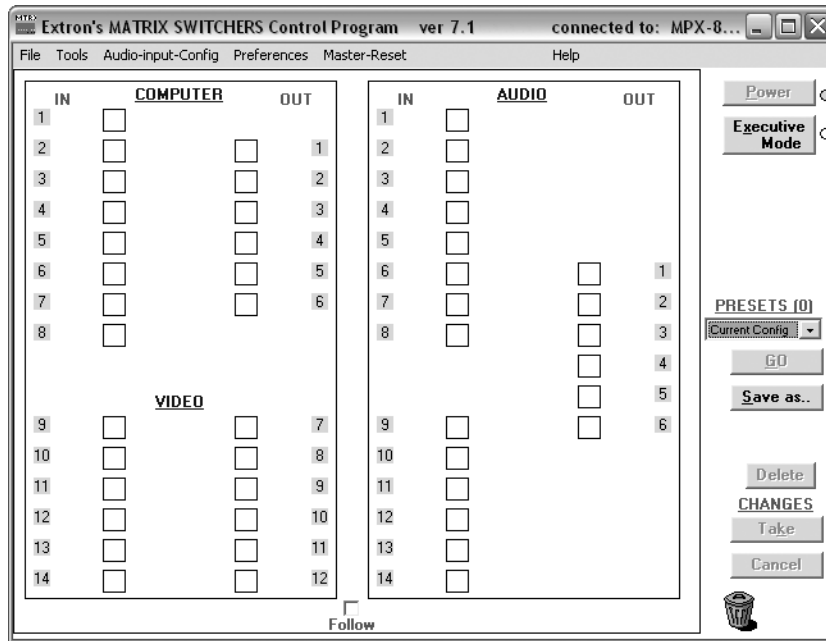
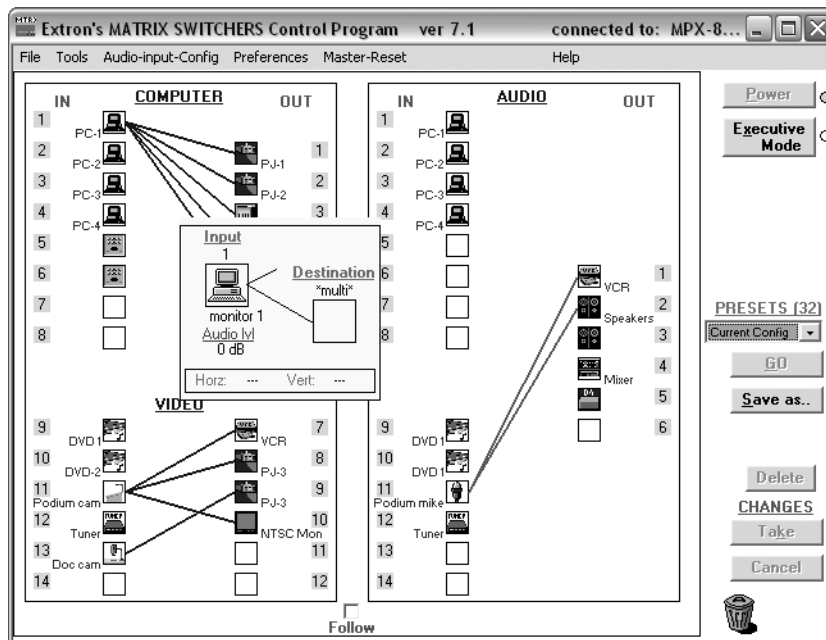

Figure 34. Extron Matrix Switchers Control Program Window (Blank)
Figure 35. Sample Program Window (Complete)
Click **OK**. The Extron Matrix Switchers Control Program window (see figure 34 and figure 35) appears, displaying the current configuration of the attached matrix. Proceed to step **4**.
- If you logged on using the administrator password or if no password was required, the program connects you to the matrix switcher with all of the administrator rights and privileges. The Extron **Matrix Switchers Control Program** window (see figure 34 and figure 35) appears, displaying the current configuration of the attached matrix. Proceed to step 4.
- For quick display of information on a specific input or output device, position the pointer tool over that input or output in the control program window. The program opens a pop-up window that details the connections to that device and the status of the optical link (present or missing) input from or output to that device (see the inset box in figure 35).